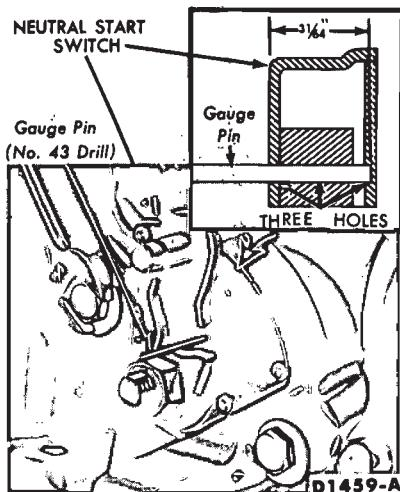

FIG. 15—Neutral Start Switch Adjustments—Console Shift—Mustang
1. With the manual lever properly adjusted, loosen the two switch attaching bolts (Fig. 15).
2. With the transmission manual lever in neutral, rotate the switch and insert the gauge pin (No. 43 drill shank end) into the gauge pin holes of the switch. The gauge pin has to be inserted to a full $31/64$ inch into the three holes of the switch (Fig. 15).
2. Apply penetrating oil to the downshift lever shaft and nut. Remove the transmission downshift outer lever retaining nut and lever (Fig. 15).
6. With the transmission manual lever in neutral, rotate the switch and install gauge pin (No. 43 drill) into the gauge pin hole (Fig. 15).